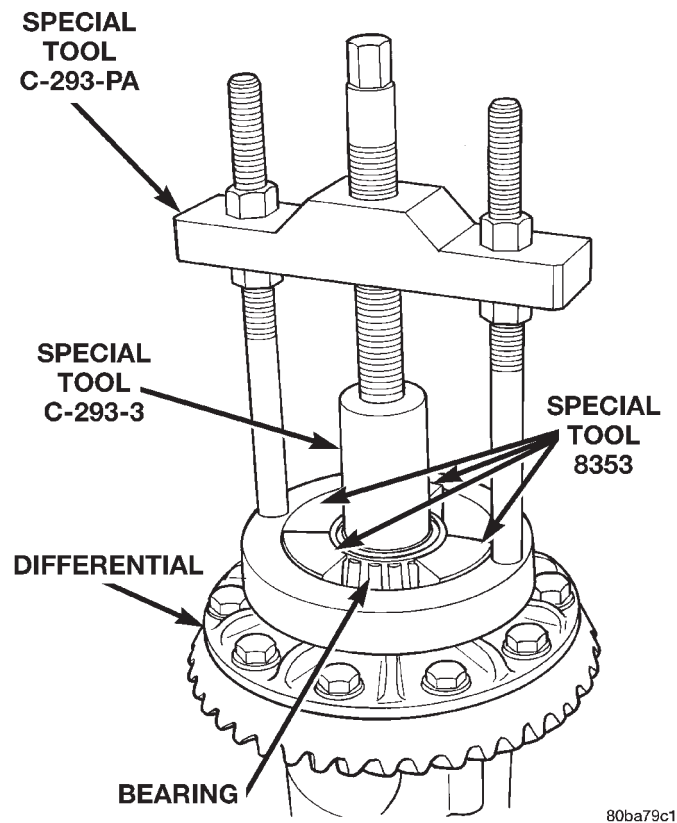

Fig. 40 Differential Bearing Removal
- (1) Remove differential case from axle housing.
- (2) Remove the bearing from the ring gear side of the differential case with Puller/Press C-293-PA, Adapter Blocks 8353, and Plug C-293-3 (Fig. 40).
- (3) Remove the Vari-lok™ plenum from the differential case hub.